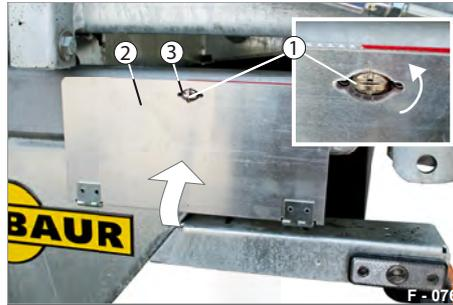

Fig. 99 Parking warning panel, aluminium plate
- ▶ Fold up the lowered halves (Fig. 99/2) of the warning panels.
- ▶ Turn the screw cap (Fig. 99/1) into a vertical position.